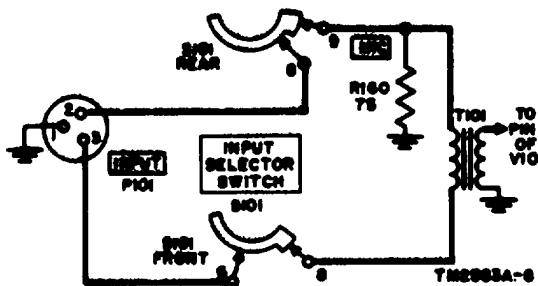

Figure 21. Microphone input circuit, simplified schematic diagram.
a. *Microphone* (fig. 21). With the microphone connected to INPUT connector P101, and INPUT SELECTOR SWITCH S101 operated to the MIC. position, incoming signals from the microphone are connected across the primary of transformer T101 through contacts 8 and 9 of the rear section of switch S101, and 8 and 6 of the front section of switch S101. Signal information is induced into the secondary of transformer T101 and then to pin 1 (control grid) of tube V101. Resistor R160 provides a low-impedance path to ground to reduce hum level.